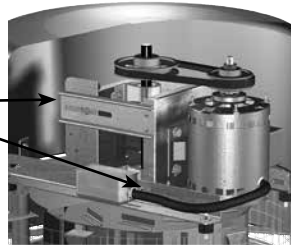

Figure 11
8. Belt tension can be adjusted by loosening four fasteners on the drive frame, see Figure 11. The motor plate slides on the slotted adjusting arms and drive frame angles in the same manner.